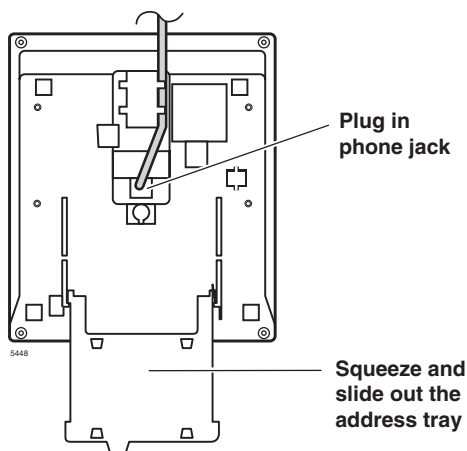

Figure 11-16 Bottom View of Telephone
2. Slide the Address Tray out, then gently squeeze the tray and remove it (see Figure 11-16).